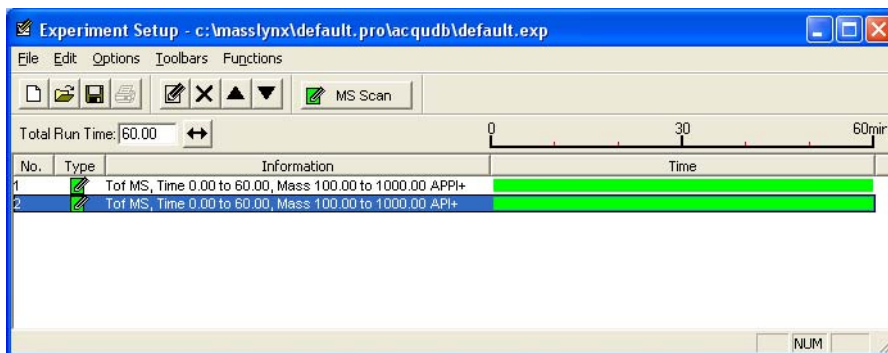

Figure 5-19 MS Method Editor with Dual APPI/APCI Functions
7. Repeat steps 3 to 6, in this case selecting the required APCI ionization mode (API+ or API-) from the Ionization Mode drop-down list. This adds the APCI entry to the MS Method Editor (Figure 5-19).